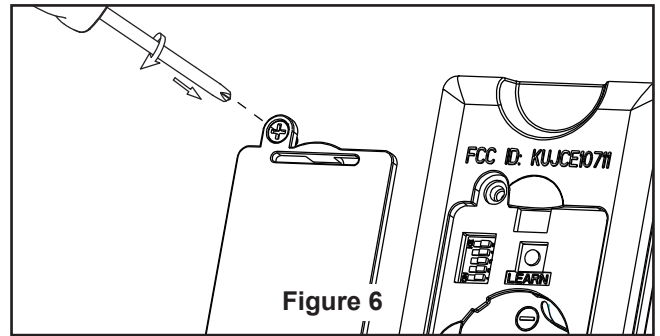

Figure 6
- 6.** Secure the steel cap to light kit wire cover by twisting in a clockwise direction. Do not over-tighten. (Figure 6)
8. Replace battery cover on the remote control and secure with the previously removed screw. (Figure 6)